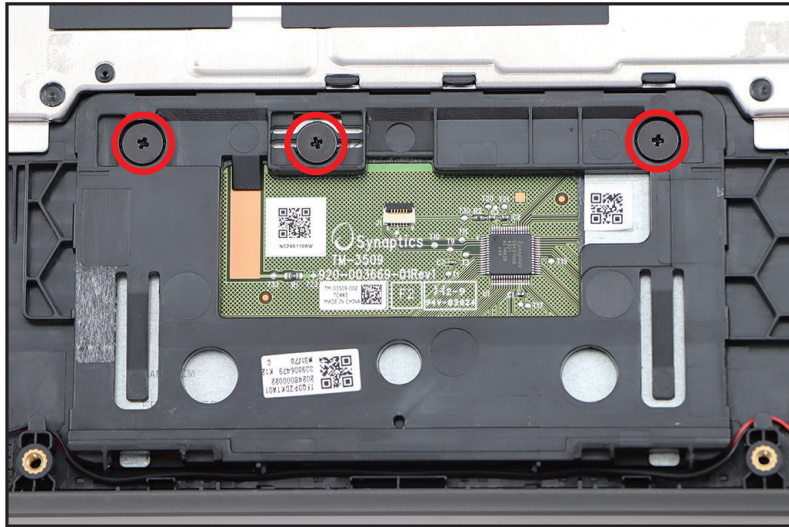

Figure 3-16. Touchpad Module Removal
5. Remove three (3) screws securing the touchpad module (Figure 3-16).